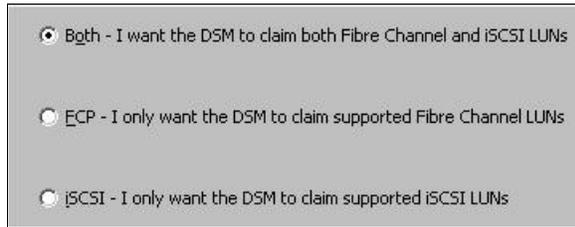

Figure 5-8 Supported protocols on ONTAP DSM
7. Select the type of LUNs to claim: FCP only, iSCSI only, or both, as shown in Figure 5-8.